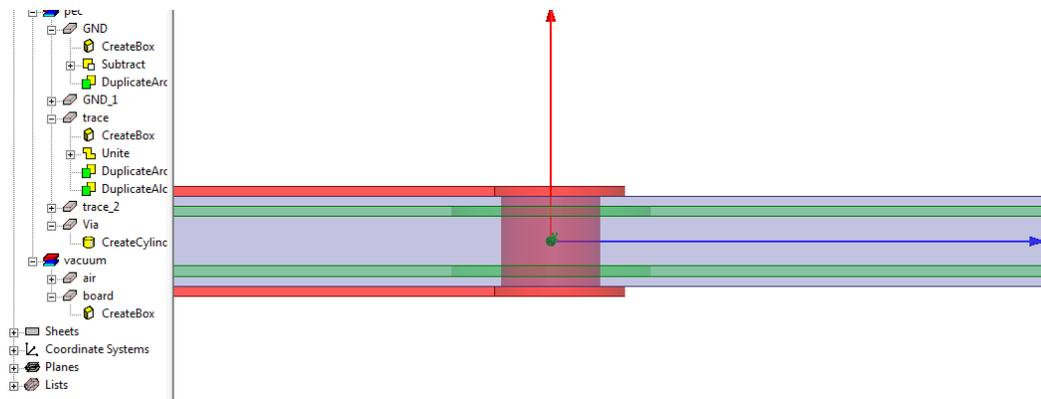
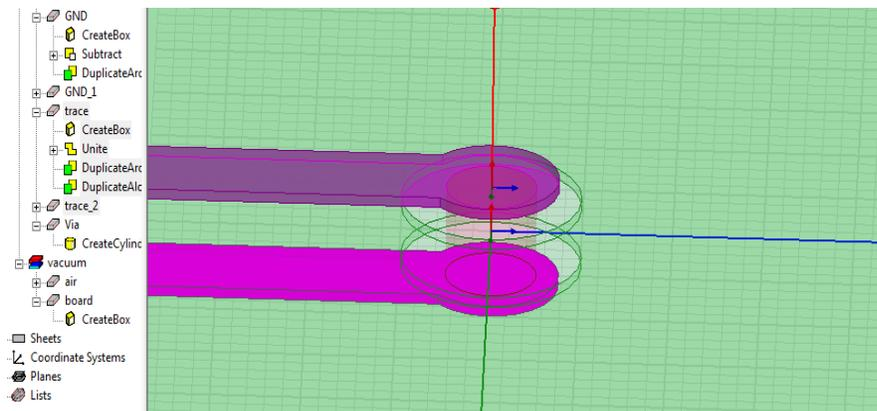

Figure 1. Side view: trace and via
Figure 2. 3D view: trace and via
**Modify the structure:** rotate the lower trace by 180 degrees with everything else remaining the same as in the HFSS tutorial; after the rotation, the structure should appear as shown in Figure 1 (side-view) and Figure 2 (3D-view); make sure the lumped port associated with the lower trace is also rotated with the trace; **hand in your plots for  $S_{11}$  and  $S_{21}$  versus frequency.**